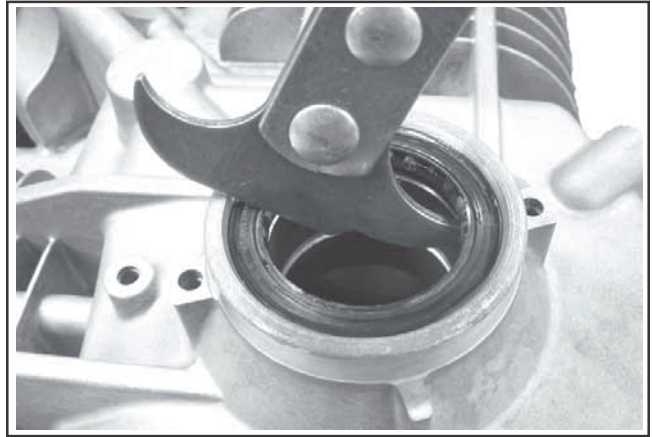

Figure 8-63. Removing Oil Seals.
1. Remove the oil seals from the crankcase and closure plate using a seal puller. See Figure 8-63.